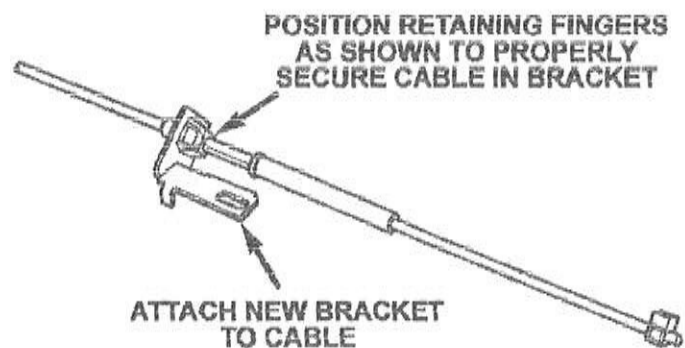

Figure 25
19. Install the new interlock cable bracket on the new cable (Figure 25).